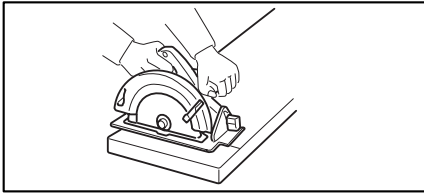
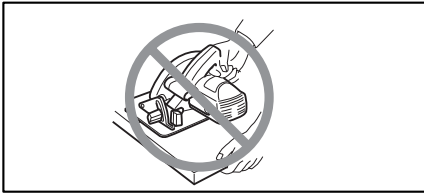

Fig. 5
Fig. 6
17. Place the wider portion of the saw base on that part of the workpiece which is solidly supported, not on the section that will fall off when the cut is made. As examples, Fig. 5 illustrates the RIGHT way to cut off the end of a board, and Fig. 6 the WRONG way. If the workpiece is short or small,